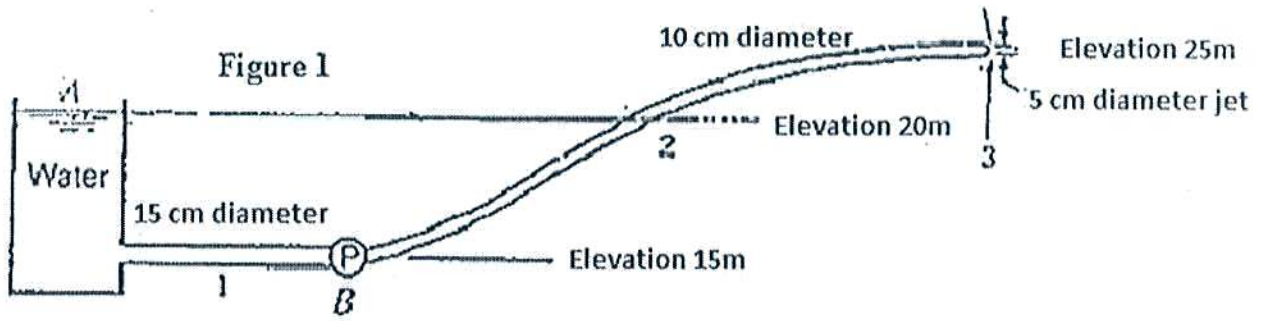

Figure 2
- b) In **Figure 2**, the pipes A, B and C are 600m of 15 cm diameter, 480m of 10 cm diameter and 1200m of 20cm diameter, respectively. Find the flow rate at each pipes and the pressure at point P. The friction factors (f) in pipes A, B and C are 0.020, 0.032 and 0.024, respectively. 10